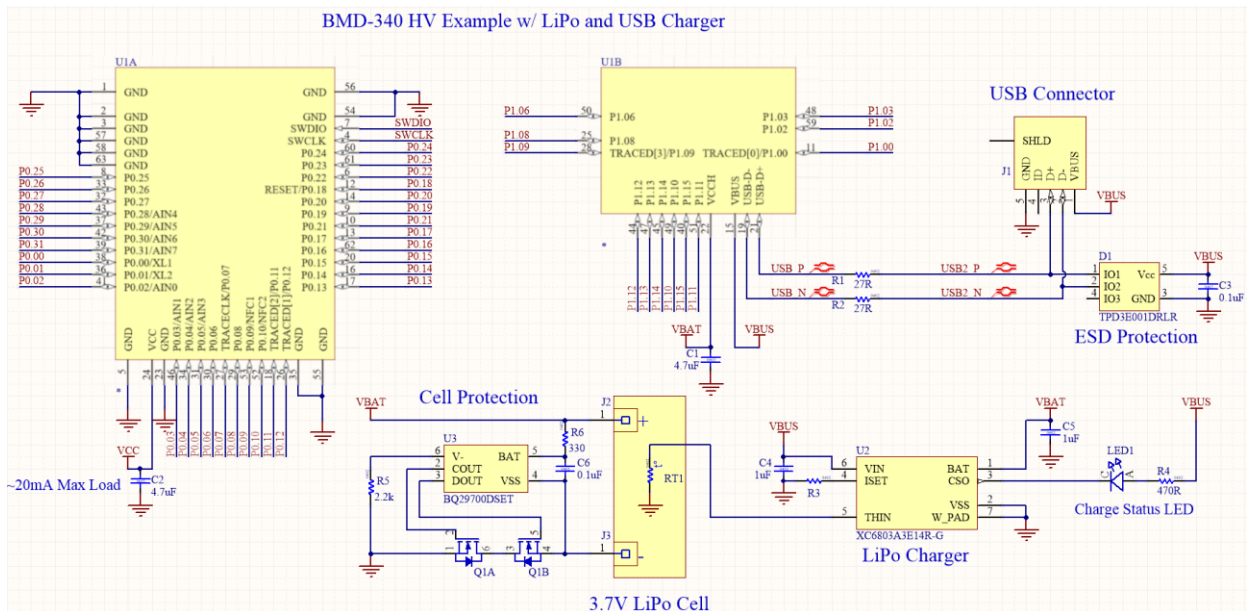

Figure 6: LiPo Powered HV example w/ USB charger
**Important:** The LiPo circuit shown in Figure 6 provides a generic example of how the BMD-380's power modes can be used. Great care must be taken when integrating Lithium-Ion batteries into a design. Protection circuits suitable for the type of battery used and the application must always be implemented.